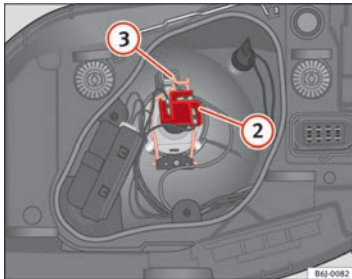

Fig. 154 Dipped beam/
- Remove connector ⇒ Fig. 154 ② from the bulb.
- Unclip the retainer spring ⇒ Fig. 154 ③ pressing inwards to the right.